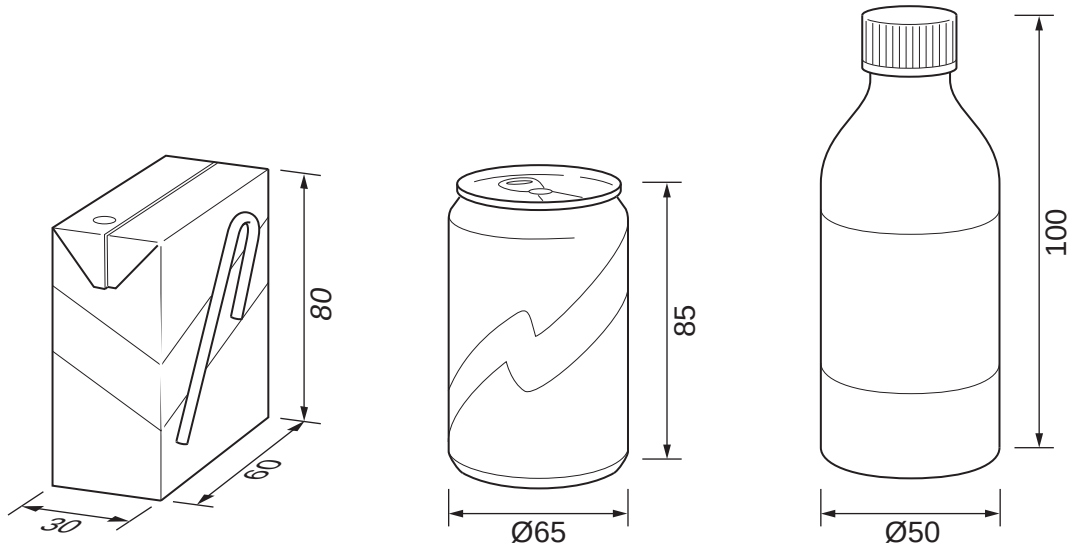

Fig. 10
- 11** A school fête requires litter bins that will encourage visitors to recycle their drinks containers. Design a litter bin that will hold a range of drinks containers made from different materials. It must include a mechanism to reduce the size of metal drinks containers. To assist you in your design, details of drinks containers are given in Fig. 10.